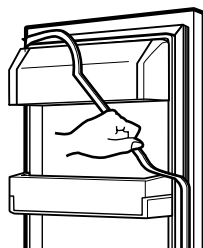

Figure 3
▶ Right Door -FIG. 3
1. Open door. Loosen top hinge cover screw (1). Lift up cover (2).
3. Disconnect wire harness (3).
4. Remove the grounding screw (4).
5. Rotate hinge lever (5) clockwise. Lift top hinge (6) free of hinge lever latch (7).